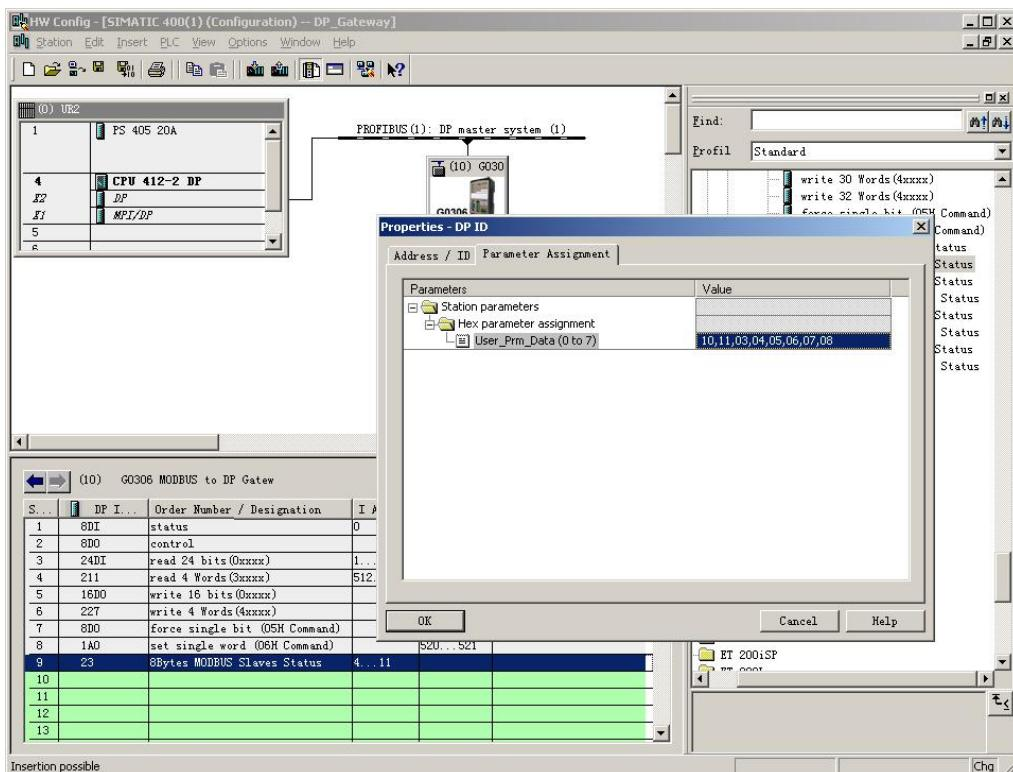

Figure 39 Configure Slave Address to Be Monitored
- c) Configure user parameters of “8Bits MODBUS Slaves Status” module, shown in Figure 39:
As shown in Figure 39, each device corresponds to 1 byte module user parameter. In the previous example, total two slave stations (10, 11) is configured, so write the two addresses into to the module user parameter.